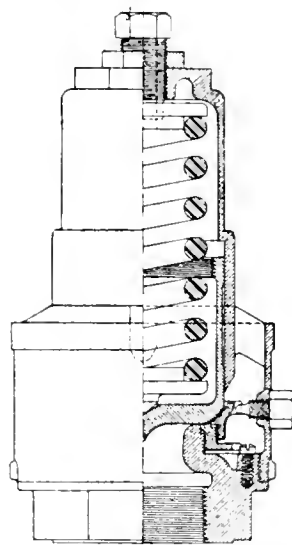
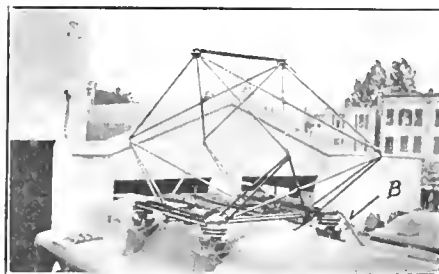

FIG. 2. SECTION VIEW OF IMPROVED SAFETY VALVE FOR LOCOMOTIVES.
FIG. 6. PANTOGRAPH RAISED.
Fig. 2 shows detail view of locomotive valve of approved design. When the rings are adjusted to the desired points, it should not need changing, and in regard to amount of discharge for pipe connections of either 3-inch or 3½-inch the conservative estimate is from 13,000 to 16,000 pounds per hour, the advantages being that there is a maximum steam discharge through a much larger opening than any other safety valve, and a complete absence of hammering or chattering, and consequently longer wear without leaking or re-seating.
A.—It is constructed of light steel drawn tubing, the general arrangement shown by Fig. 6. This framework is carried on a base, same being insulated from the roof of the locomotive by four large petticoat insulators shown by "P" Fig. 7. On top of the tubing is carried the shoe shown by "S" Fig. 2 to which is fastened on either end, a horn "H" Fig. 2 to prevent the pantograph from catching in the wire when passing through cross-overs. The shoe is usually 4 to 6 inches wide and is made of pressed steel.
A.—Through a cable, "B" Fig. 6. This cable passes through a pipe into the locomotive.